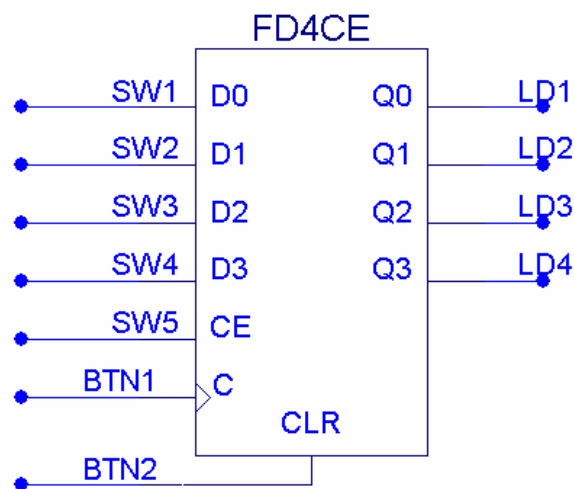

Figure 4.4: Four-Bit Register.
3. FD4CE has an asynchronous Clear (CLR) input. Connect it to an input pad through an input buffer, and constraint it to a push button (BTN2) and similarly clock (C) input to another push button (BTN1) as shown in Figure 4.4.
4. Connect Chip Enable (CE) to SW5.
7. Connect the other inputs of multiplexers as shown in Figure 4.4.